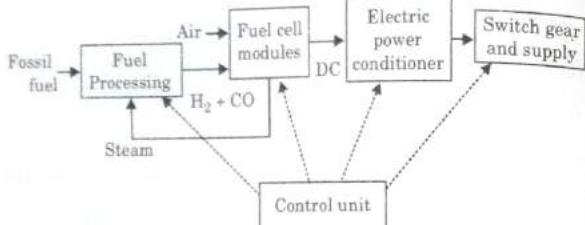

Fig. 3.25.1. Fuel cell based electrical generation scheme.
1. The main components of a fuel cell power plant is shown in Fig. 3.25.1.